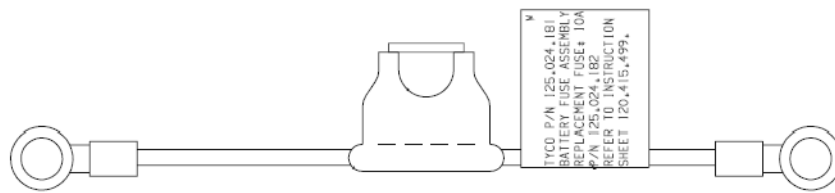

Fig. 13: Battery in-line fuse kit
- 4 Locate the Fuse Kit in Line (refer to Fig. 13). From the kit, remove the fuse and keep this safely (you will be inserting the fuse later as part of the commissioning procedure). Connect the remaining battery terminals using the kit.